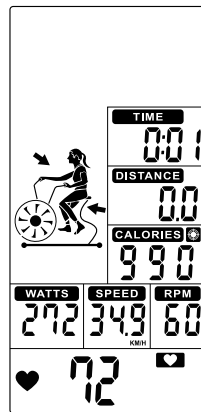

Figure 44
- ③ Preset CALORIES value counts down, TIME, DISTANCE, WATTS, SPEED & RPM start to count up. (Figure 44)
- ④ Press START button once enter into PAUSE mode, Buzzer will sound for 0.5s per second within 30s. All values are displaying on LCD and flashing in every 2s. If continue to stop training for 5 minutes, buzzer sounds 2s and enter to Wake-up mode. Press START to resume workout.
- ⑤ No signal input for 30s, buzzer sounds 1s and enter to Wake-up mode.